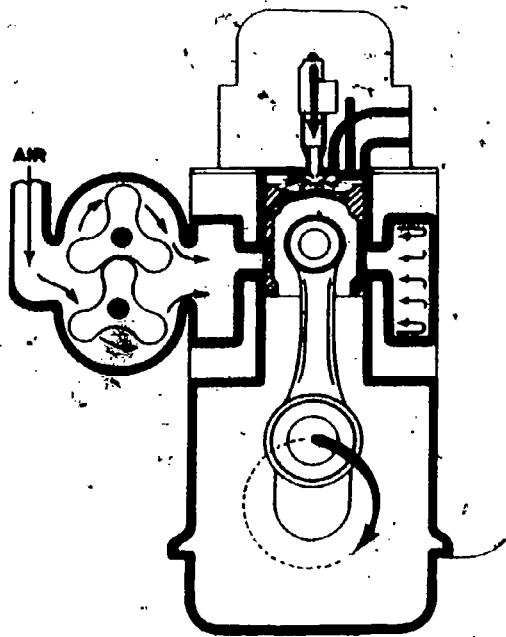

Fig 2-6c. Power phase of downward stroke of engine piston.
- (c) **Power.** Burning and expansion take place just as they did in the 4-cycle engine; and the resulting pressure forces the piston down on its power stroke (fig 2-6c).